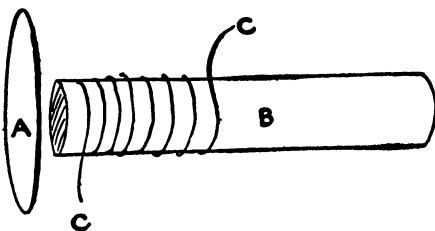

Fig. 3
The receiver (Fig. 3) consists of an iron disk, or diaphragm (A), located very close to, but not quite touching the end of a steel bar-magnet which is wound with fine, insulated wire.